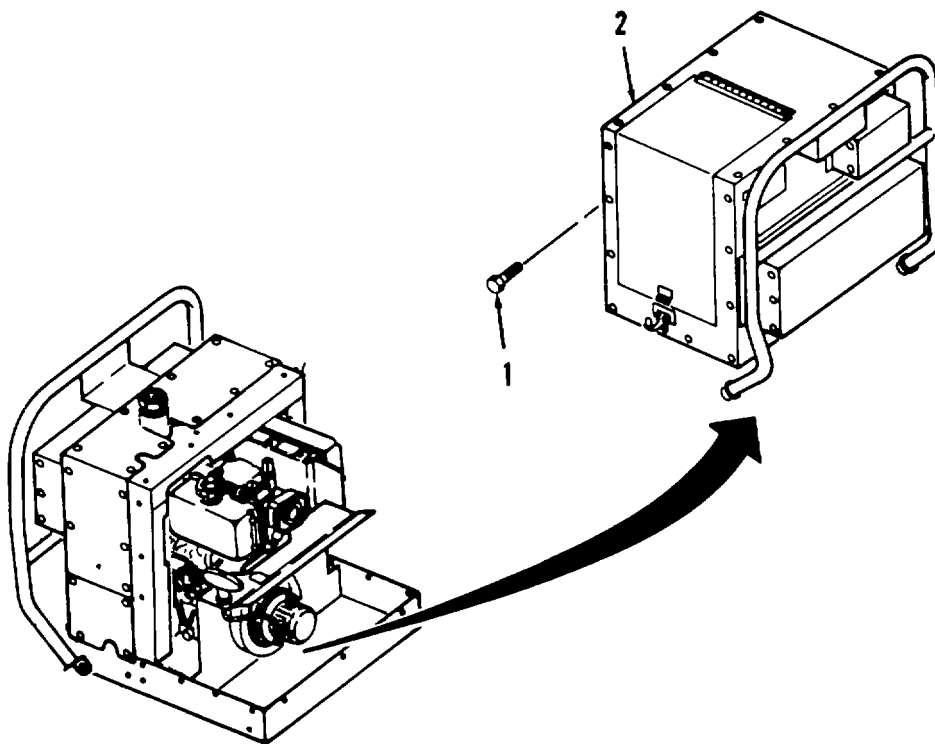
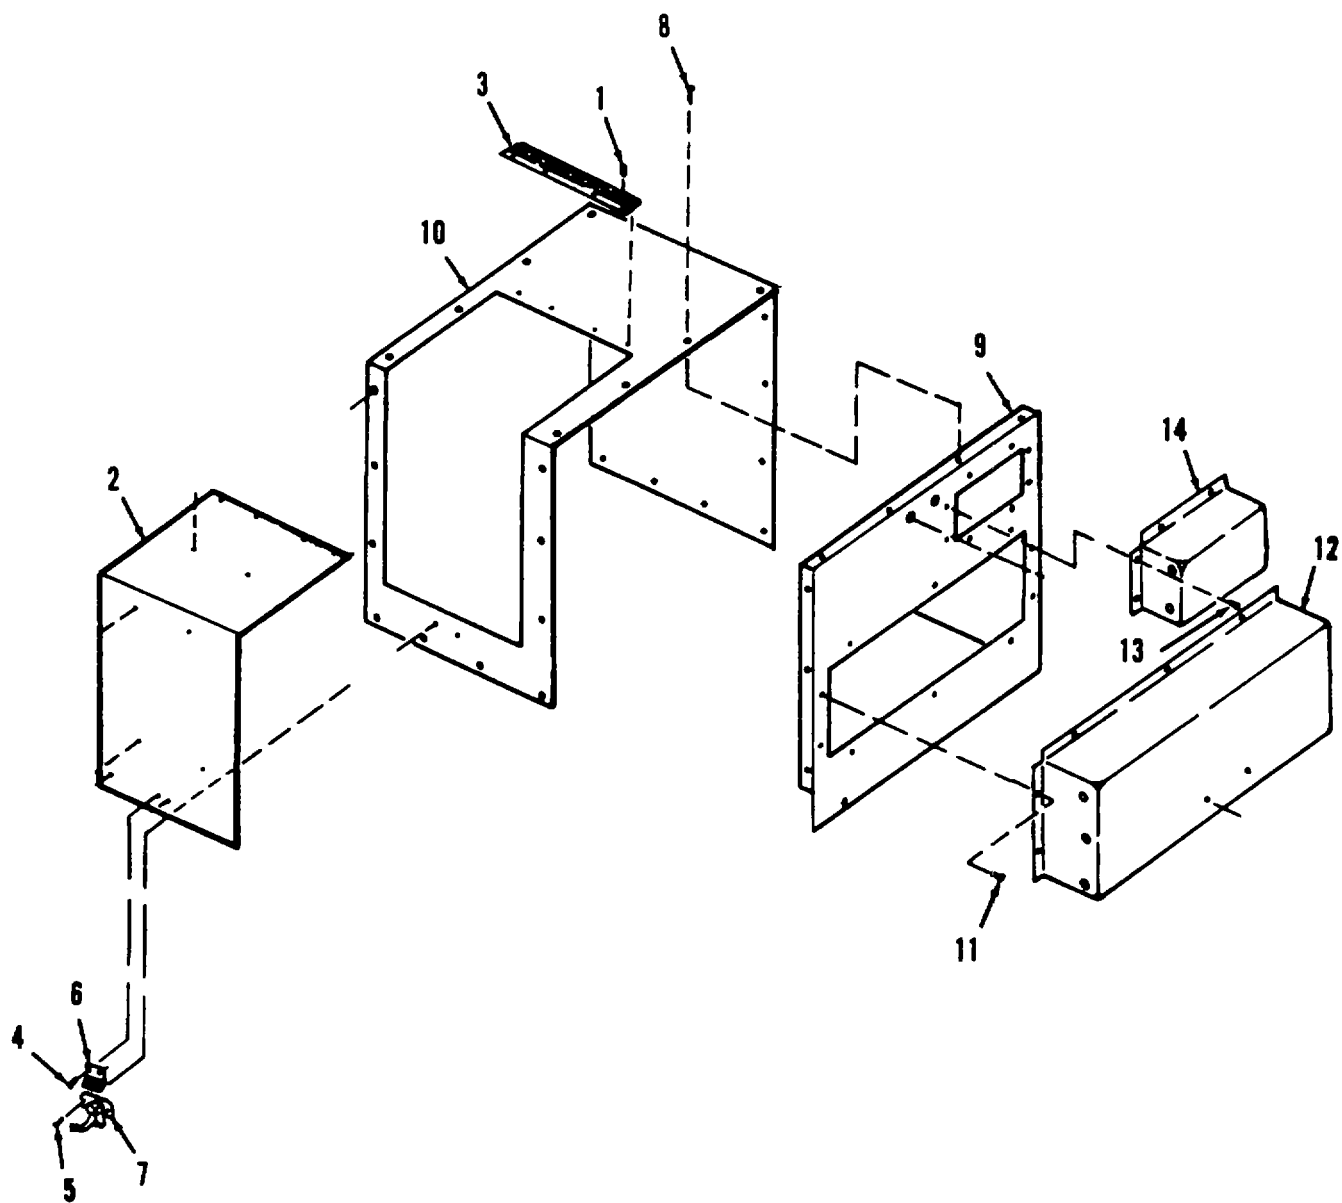

Figure 4-11. Enclosure Assembly, Inlet Side Removal.
Figure 4-12. Enclosure Assembly, Inlet Side Disassembly.
a. Removal. (Refer to Figure 4-11).
- (1) Remove twenty-one screws (1).
- (2) Remove inlet enclosure assembly (2) from unit.
b. Disassembly. (Refer to Figure 4-12).
- (1) Drill out and remove four rivets (1) from door (2).
- (2) Drill out and remove four rivets (1) and remove hinge (3).
- (3) Drill out and remove two rivets (4) and two rivets (5).
- (4) Remove catch strike (6) and clamping catch (7) from door (2).
- (5) Drill out and remove ten rivets (8) and sheet (9) from sheet (10).
- (6) Drill out and remove seven rivets (11) and sheet (12) from sheet (9).
- (7) Drill out and remove eight rivets (13) and sheet (14) from sheet (9).
- (8) If foam insulation is to be replaced, remove foam insulation as required.
- (2) Clean all metallic parts with a clean soft cloth or a medium bristle brush, and cleaning solvent. Be sure that all gasket adhesive residue is removed if gasket material is being replaced.
- (3) Allow parts to dry.
e. Assembly. (Refer to Figure 4-12.)
- (1) If foam insulation was removed, replace foam insulation. Refer to Appendix F for manufacturing instructions.
- (2) Install eight rivets (13) and sheet (14) onto sheet (9).
- (3) Install seven rivets (11) and sheet (12) onto sheet (9).
- (4) Install ten rivets (8) and sheet (9) onto sheet (10).
- (5) Install two rivets (5) and clamping catch onto sheet (10).
- (6) Install two rivets (4) and catch strike (6) onto door (2).
- (7) Install four rivets (1) and hinge (3) onto door (2).
- (8) Install four rivets (1) and door (2) onto sheet (10).
f. Installation. (Refer to Figure 4-11).
- (1) Place inlet enclosure assembly (2) into position on unit.
- (2) Install twenty-one screws (1).